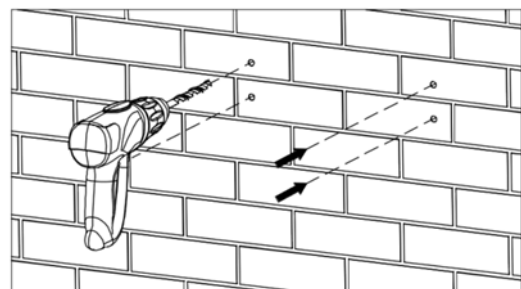

Figure 11B: Drill into the marked holes
2. Drill 4 installation holes into the wall according to the marked holes as in Figure 11B.